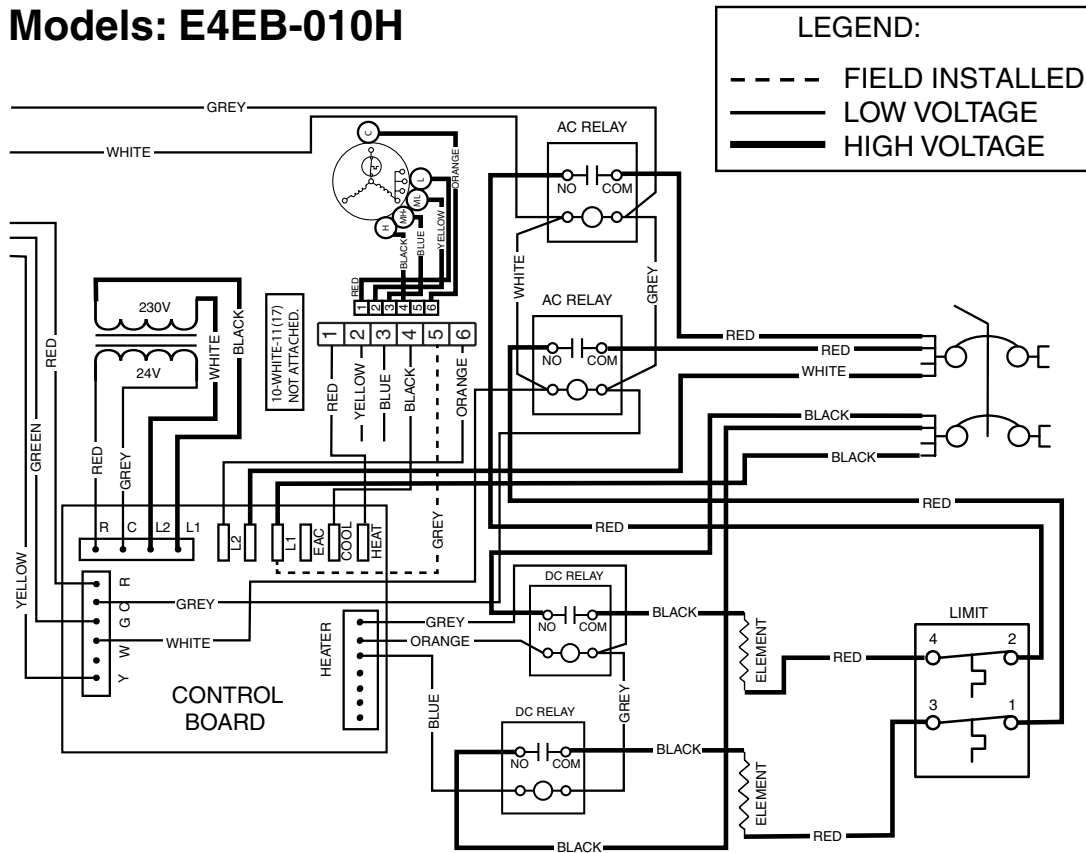

Figure 5. E3EB-010H Electrical Diagram
- **For E4 series furnaces only:** Install the grey wire that is supplied with this kit. Determine your appropriate model from Figures 5, 6, 7, or 8 (pages 4 & 5).